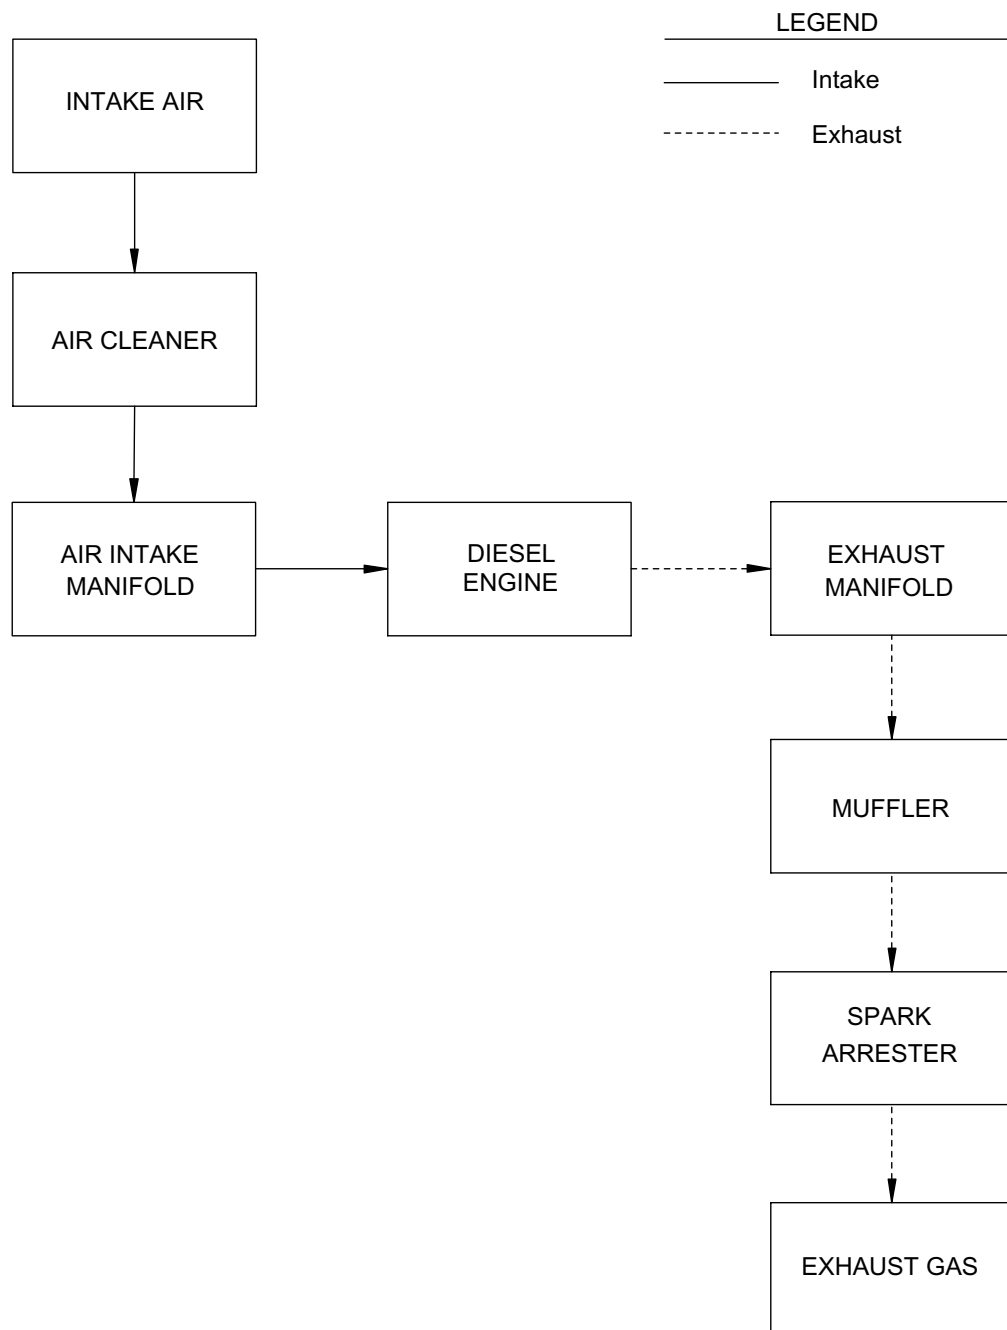

Figure 1-4. Engine Air Intake and Exhaust System
1.18.1. The Engine Air Intake and Exhaust System (Figure 1-4) provides filtered air to the diesel engine and an outlet for exhaust gas produced by air/diesel fuel combustion. The system consists of an air intake filter, air intake manifold, exhaust manifold, and muffler with spark arrester.